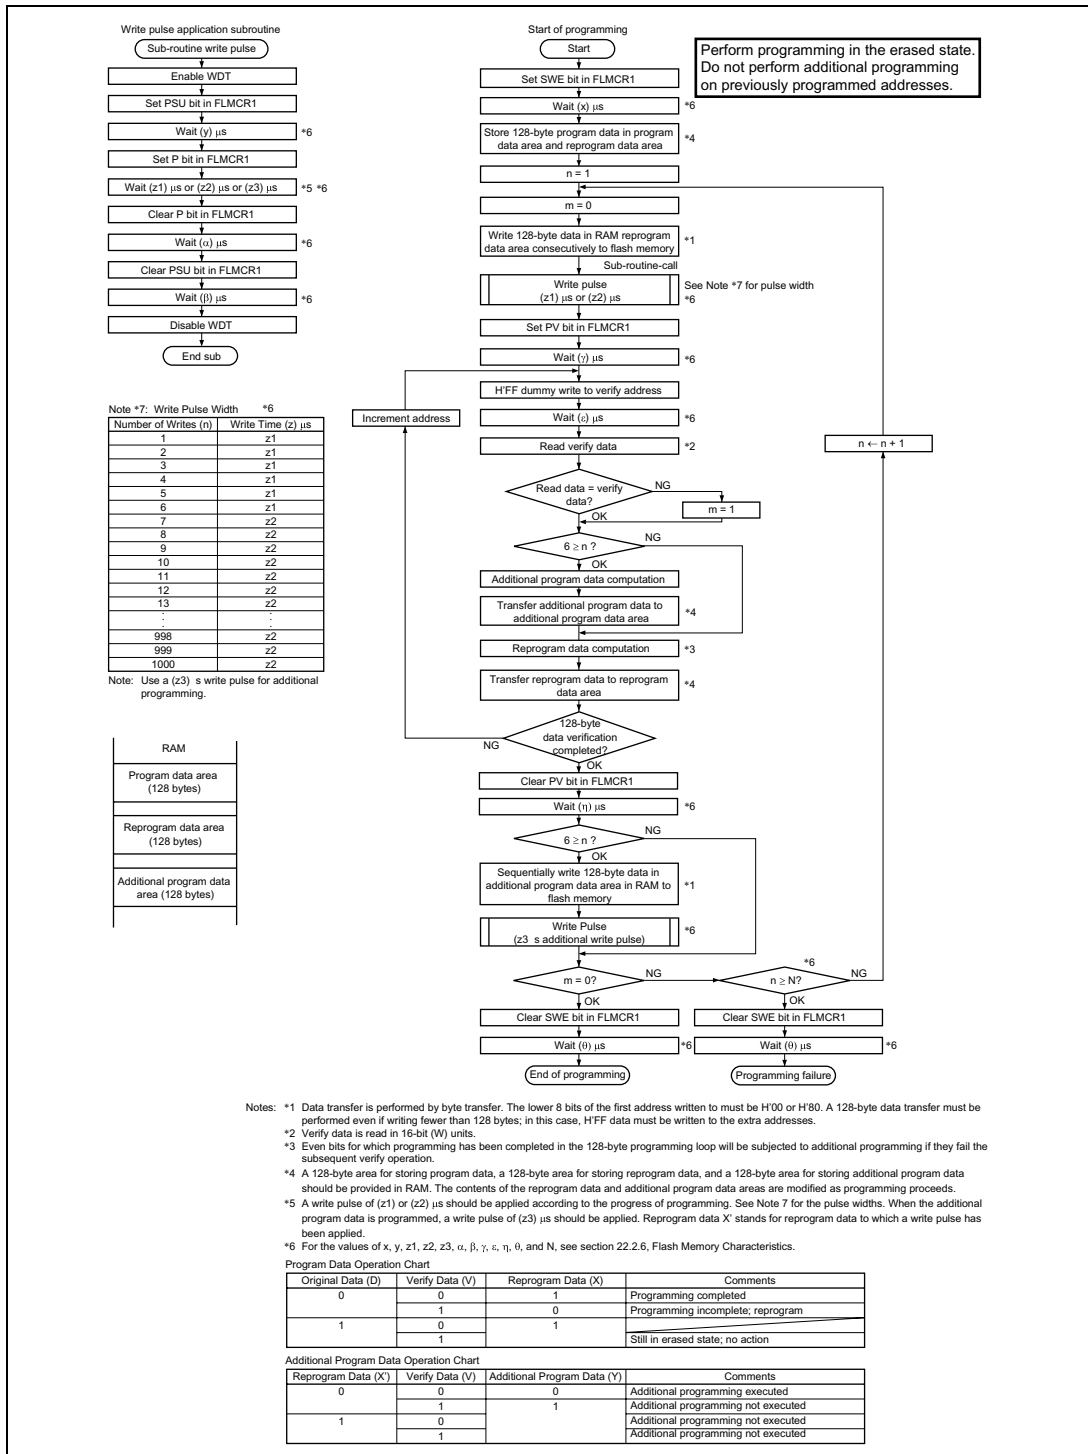

Figure 19-14 Program/Program-Verify Flowchart
Follow the procedure shown in the program/program-verify flowchart in figure 19-14 to write data or programs to flash memory. Performing program operations according to this flowchart will enable data or programs to be written to flash memory without subjecting the device to voltage stress or sacrificing program data reliability. Programming should be carried out 128 bytes at a time.
After the elapse of a given programming time, the programming mode is exited (the P bit in FLMCR1 is cleared to 0, then the PSU bit is cleared to 0 at least (α) μ s later). Next, the watchdog timer is cleared after the elapse of (β) μ s or more, and the operating mode is switched to program-verify mode by setting the PV bit in FLMCR1. Before reading in program-verify mode, a dummy write of H'FF data should be made to the addresses to be read. The dummy write should be executed after the elapse of (γ) μ s or more. When the flash memory is read in this state (verify data is read in 16-bit units), the data at the latched address is read. Wait at least (ϵ) μ s after the dummy write before performing this read operation. Next, the originally written data is compared with the verify data, and reprogram data is computed (see figure 19-14) and transferred to the reprogram data area. After 128 bytes of data have been verified, exit program-verify mode in FLMCR1 to 0, and wait again for at least (θ) μ s. If reprogramming is necessary, set program mode again, and repeat the program/program-verify sequence as before. However, ensure that the program/program-verify sequence is not repeated more than (N) times on the same bits.